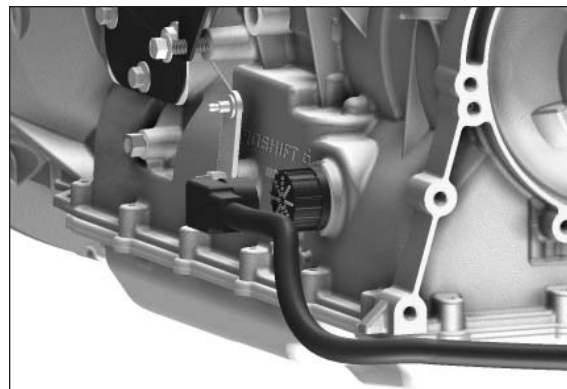

Figure 42
**NOTE:** The removal of the transmission electrical connection plug will aid in the installation of the PTO (Fig. 42) (249V).